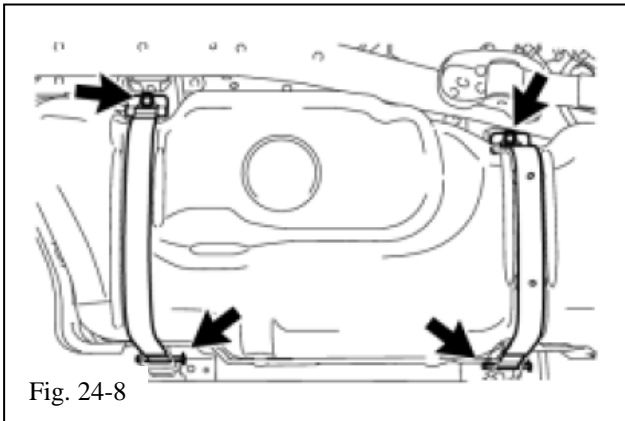

Fig. 24-8
- (l) Remove the 2 bolts, 2 clips, 2 pins and 2 fuel tank bands (Fig. 24-8).